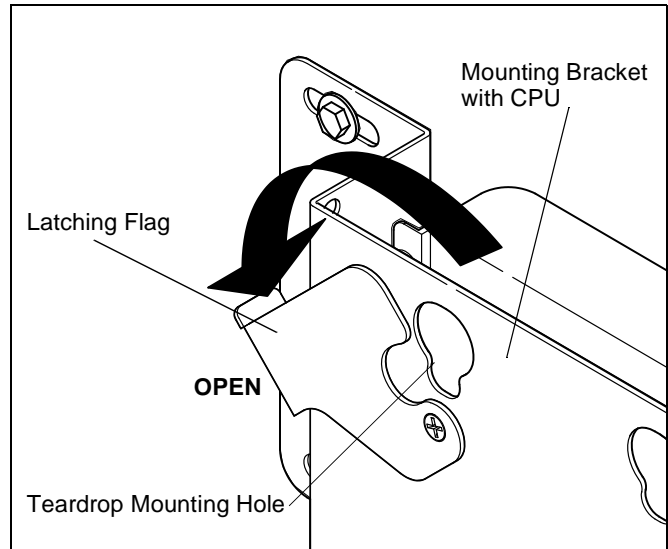

Figure 7
- Align mounting buttons on display with teardrop mounting holes in mounting bracket (See Figure 7).